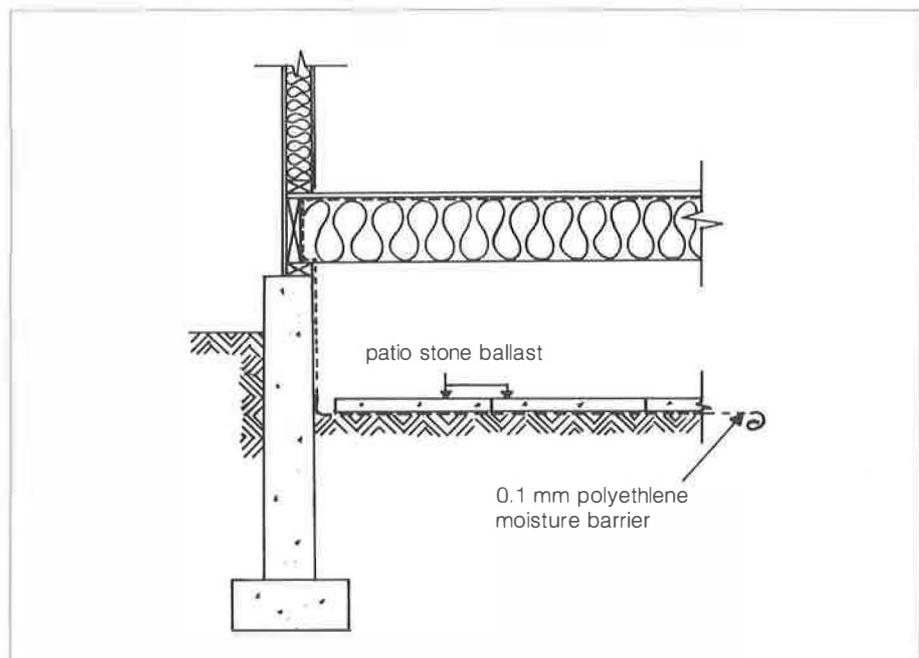

Fig. 25. Moisture barrier over ground covers
- Install a moisture barrier on the exposed ground in the crawl space. The moisture barrier could be 50 mm (2 ") asphalt, 10 MPa (1,500 PSI) Portland cement concrete, 2.2 kg/m² roll roofing or 0.10 mm polyethene film. The joints should be lapped more than 150 mm (6") and should be weighted down with stone or some other suitable ballast material (fig 25). Air seal the crawl space from the ground surface.